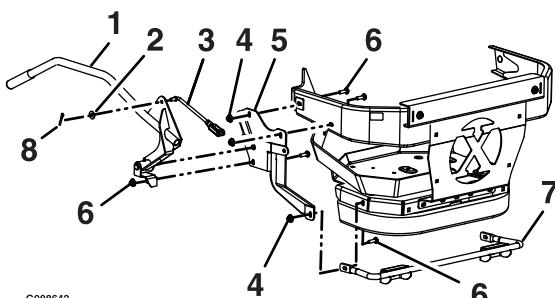

Figure 7
1. Mount the pivot mount to the LH rear bumper using two additional 3/8-16 x 1 1/4 inch carriage bolts and two 3/8-16 inch nyloc nuts as shown in Figure 7.
3. Insert the handle pin and dump handle assembly into the pivot mount hole as shown in Figure 7.